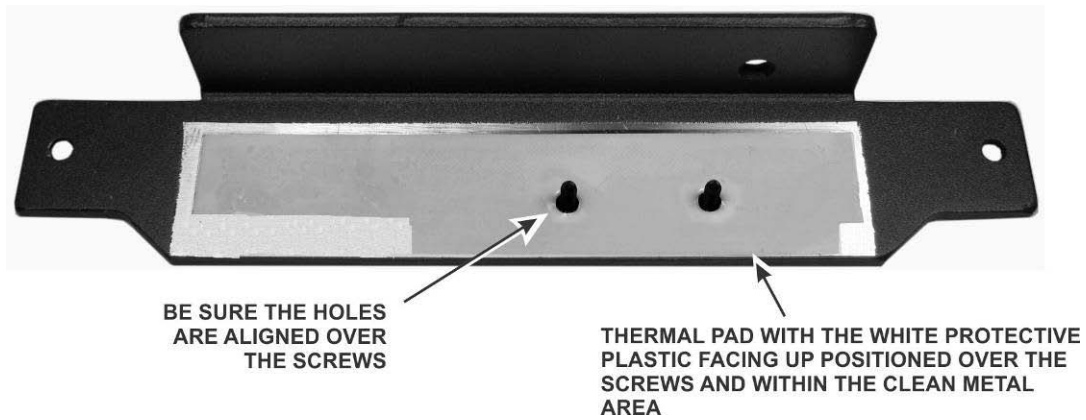

Figure 39. Placing the Thermal Pad on the Heat Sink.
□ Carefully position the thermal pad on the heat sink as shown in Figure 39. Be sure the thermal pad is against the metal and the white plastic protective film is facing upward. Rub the center area of the thermal pad to help it adhere to the metal. Remove the screws and return them to the proper parts envelope.